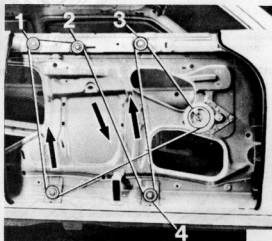

Fig. 12.12. Correct layout of window winding cable (viewed from the inside of the door). (Sec. 13)
- 19 Wrap the cable around the other rollers (Fig. 12.12) ensuring the cable does not become kinked. When the cable is correctly installed, apply hand pressure to the adjustable roller (2) and tighten the roller locking nut/bolt.